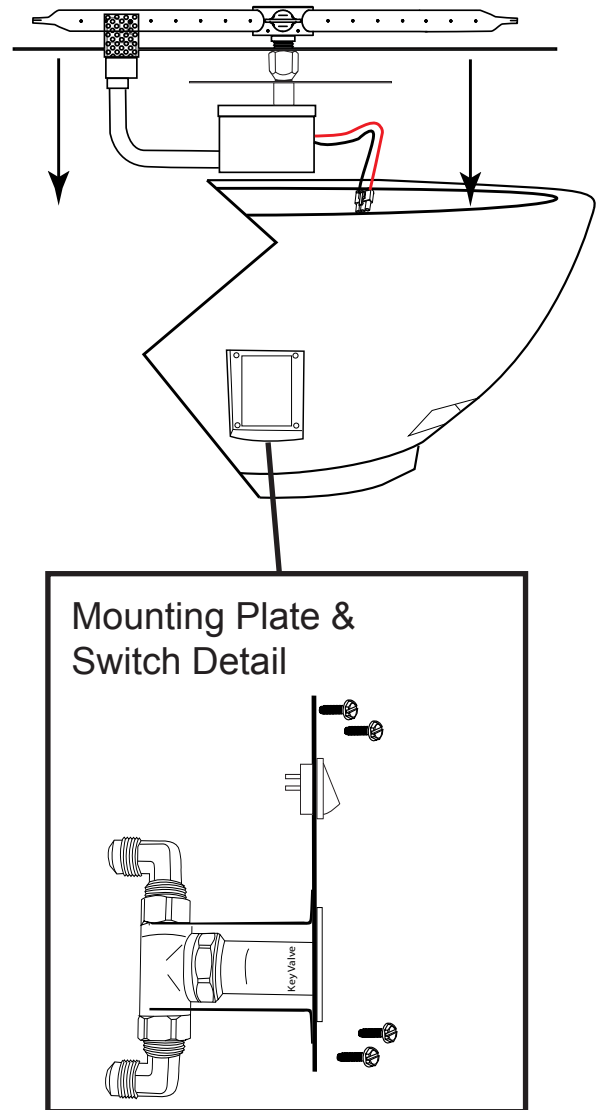

Fig. 8 Typical mounting plate installation.
Install the key valve mounting plate into the Sanctuary bowl as shown in Figs. 8 & 9. The mounting plate must be oriented with key valve at the top (closest to burner pan). Use the four (4) thread cutting screws (supplied) to secure the mounting plate into the bowl.
Install the GOE-30DCV power supply and FG-1420-AOD remote control as shown in the wiring diagram (Fig 8).